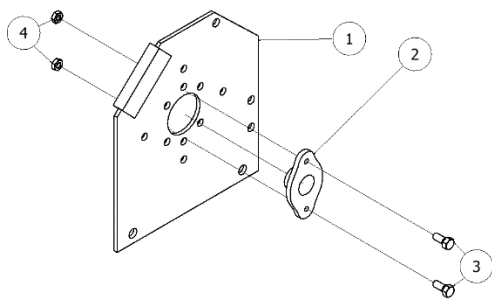

Figure 1.7
On the passenger side secure the axle bearing (2) to the tarp spool mounting plate with 5/16" x 3/4" bolts (3) and 5/16" nuts (4). (Figure 1.7)